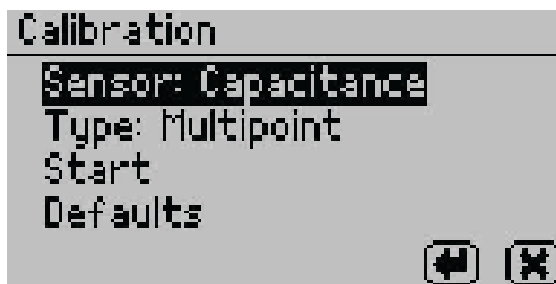

Figure 54 Capacitance sensor calibration screen
2. Select Calibration from the Configuration tab (Figure 54).